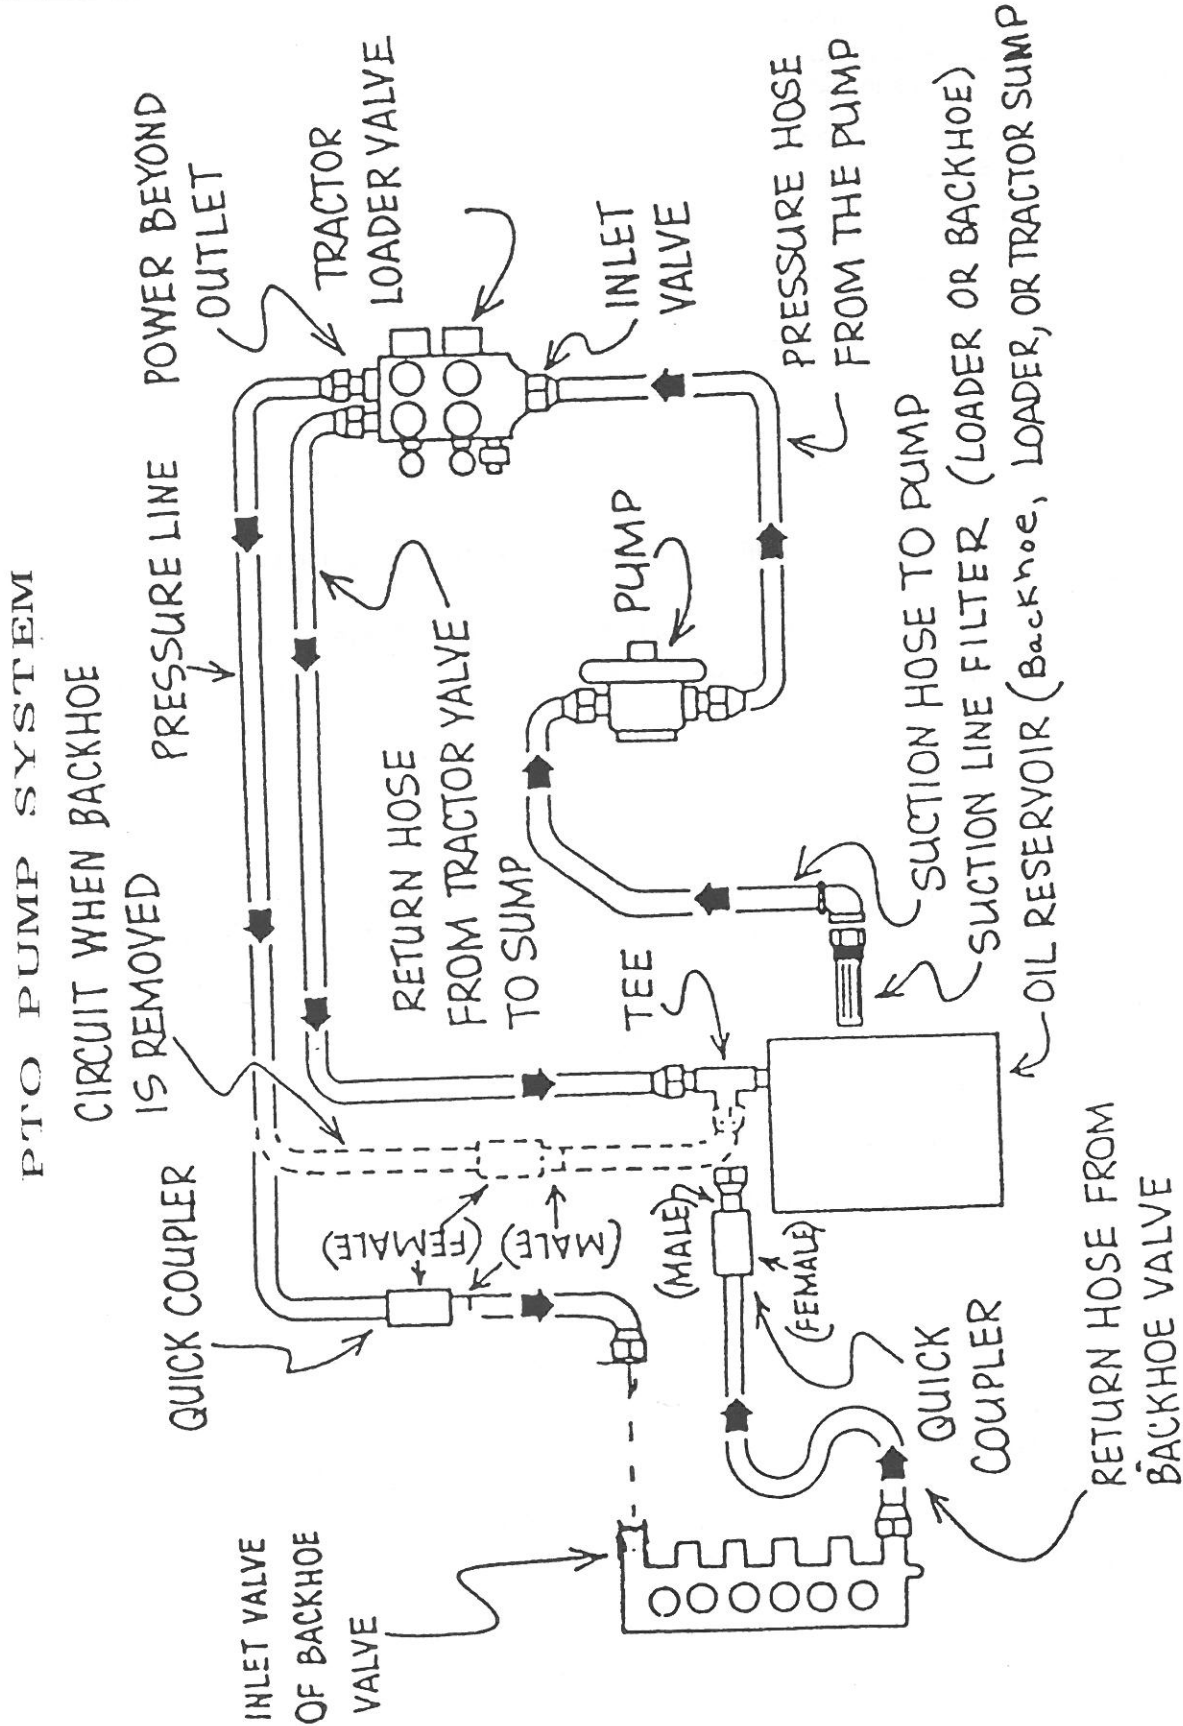

Figure 1
- B. If you wish to run both a loader and a backhoe off of the same hydraulic system, make your connection as illustrated in Figure 2—Power Beyond Hosing. Also, refer to the section of this manual entitled **Power Beyond Hydraulic Systems** Figure 1. Since there are so many variations for this type of setup, we are showing only a generalized hosing scheme. If you have any questions concerning the specifics for your situation, please contact the factory before attempting operation.
- F. Refer to Figure 1 for hosing.
Install the independent hydraulic system onto the backhoe according to the following procedures. Refer to Figure 1 and page 7 of this manual for the identification of the parts. During the assembly, use pipe compound on all pipefittings. None is required on the O-Ring fittings.